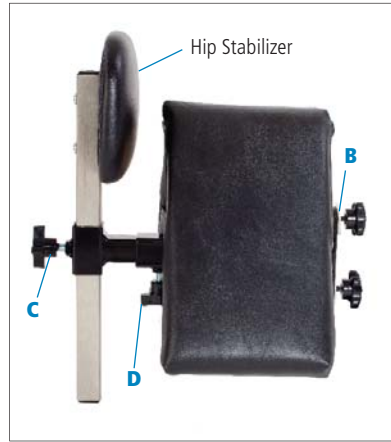

Figure 13a
**E940 & E950** (see Figure 13a)